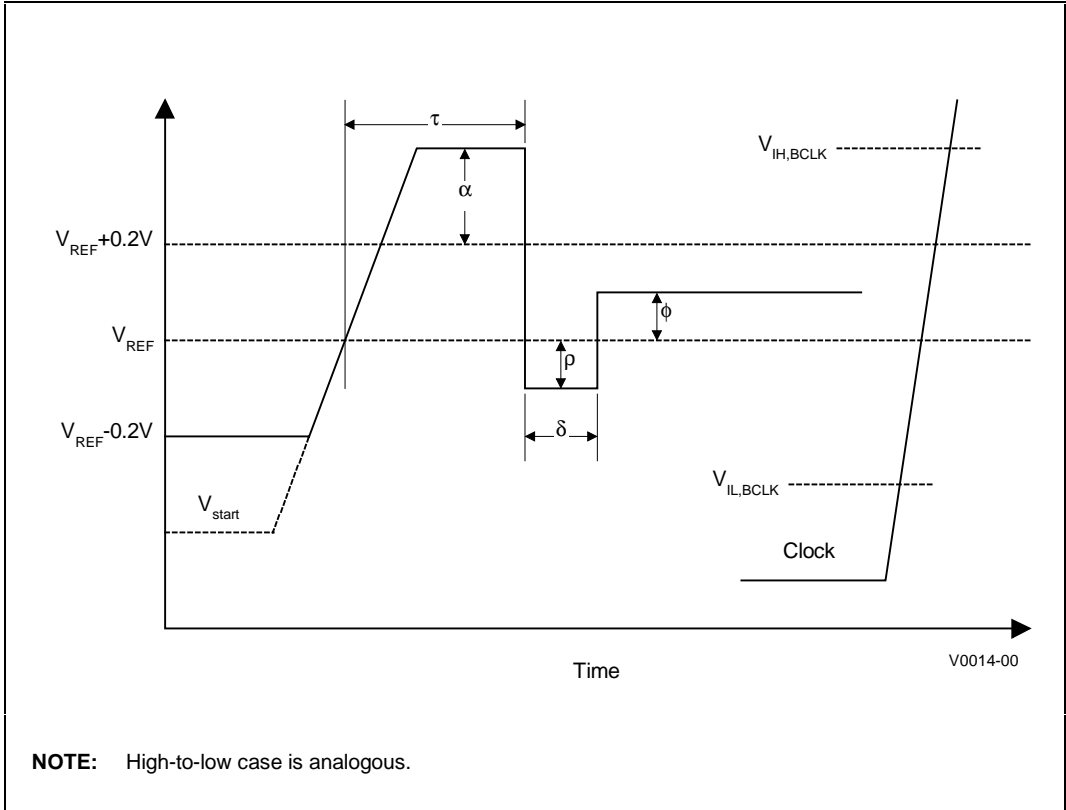

Figure 4.1 Low to High, Low Power GTL+ Receiver Ringback Tolerance
- Specified for the edge rate of 0.3 – 0.8 V/ns. See Figure 4.1 for the generic waveform.
Signals driven to the Mobile Pentium II processor should meet signal quality specifications to ensure that the processor reads data properly and that incoming signals do not affect the long-term reliability of the processor. There are three signal quality parameters defined: overshoot/undershoot, ringback and settling limit. All three signal quality parameters are shown in Figure 4.1 for non-GTL+ signal groups.